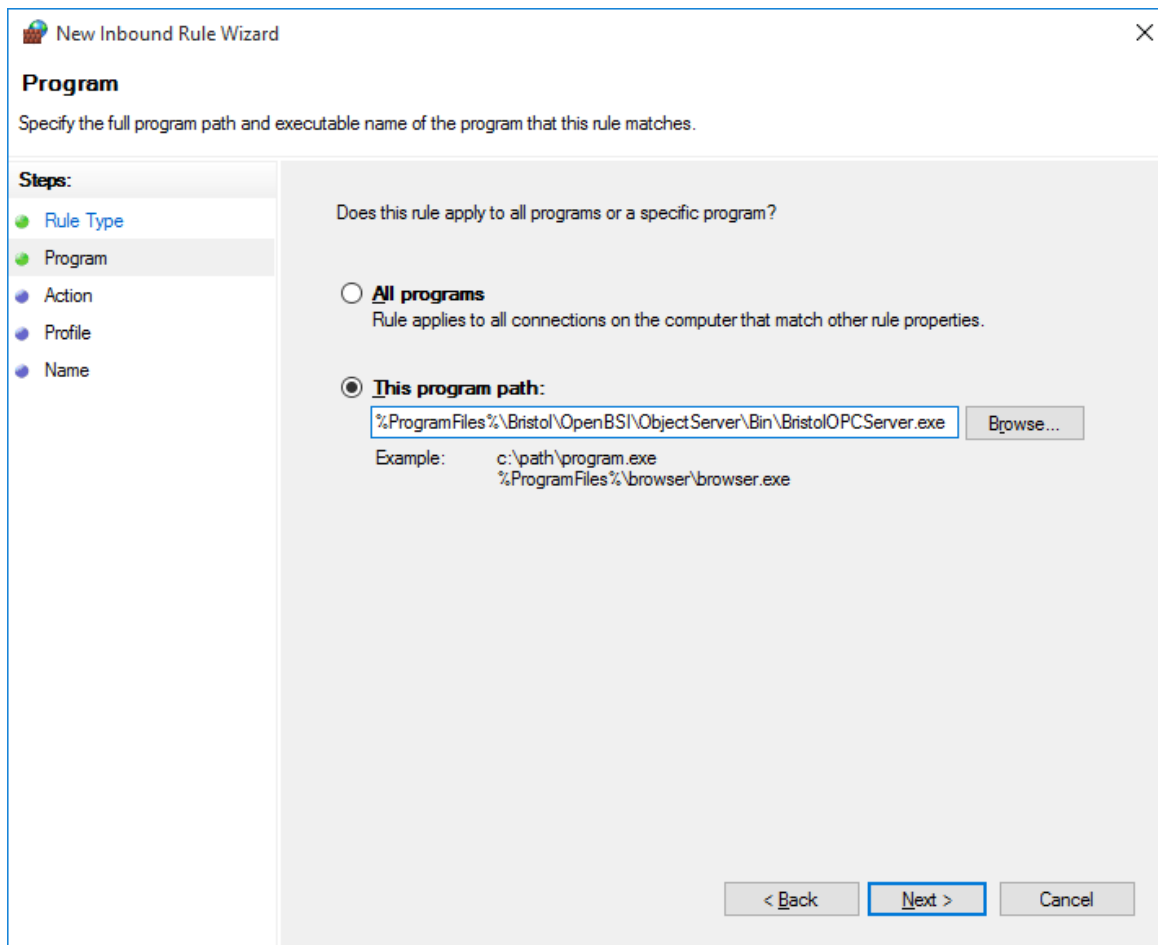

Figure 2-68. Program Path for the Exception
8. The path for the item you just selected shows in the **This program path** field on the Program page of the New Inbound Rule Wizard (Figure 2-68). Click **Next**.